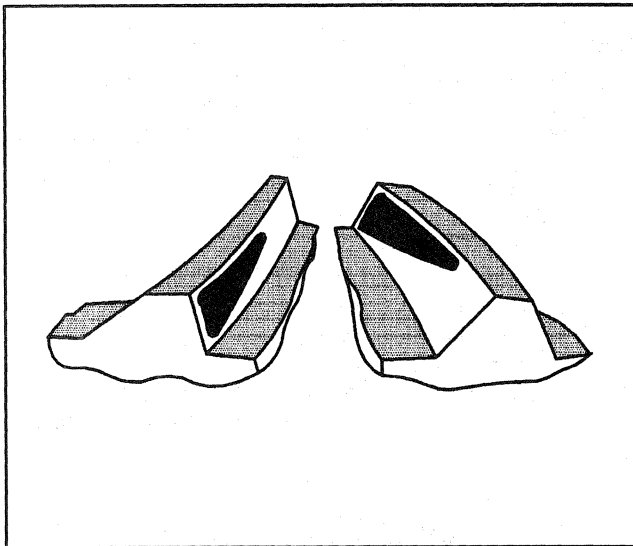

Figure 40—Pinion Gear Is too Far Away
4. Observe the pattern on the ring gear teeth and compare with Figures 40 through 42.